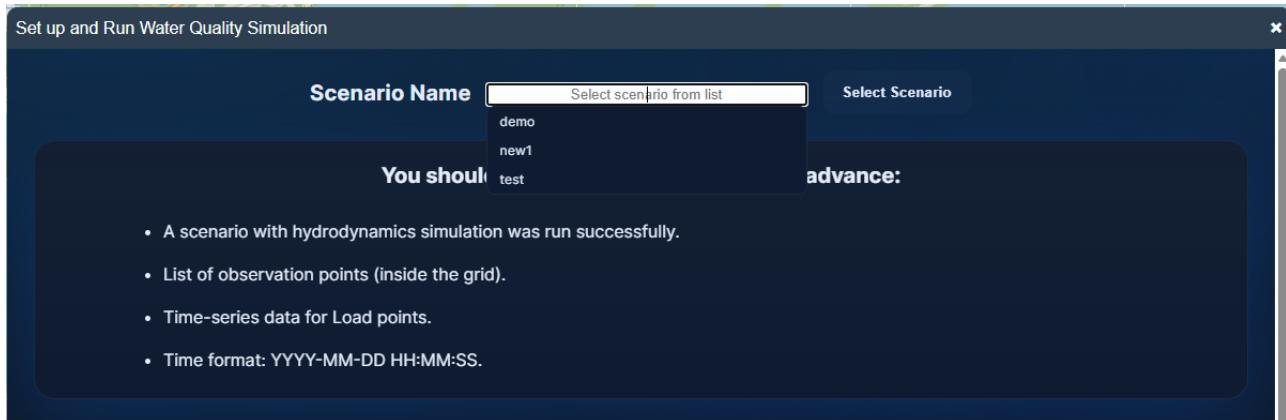

Figure 4.1. Create a WAQ scenario
- Select Project Management/WAQ Simulation to create and run a WAQ scenario (Figure 4.1).